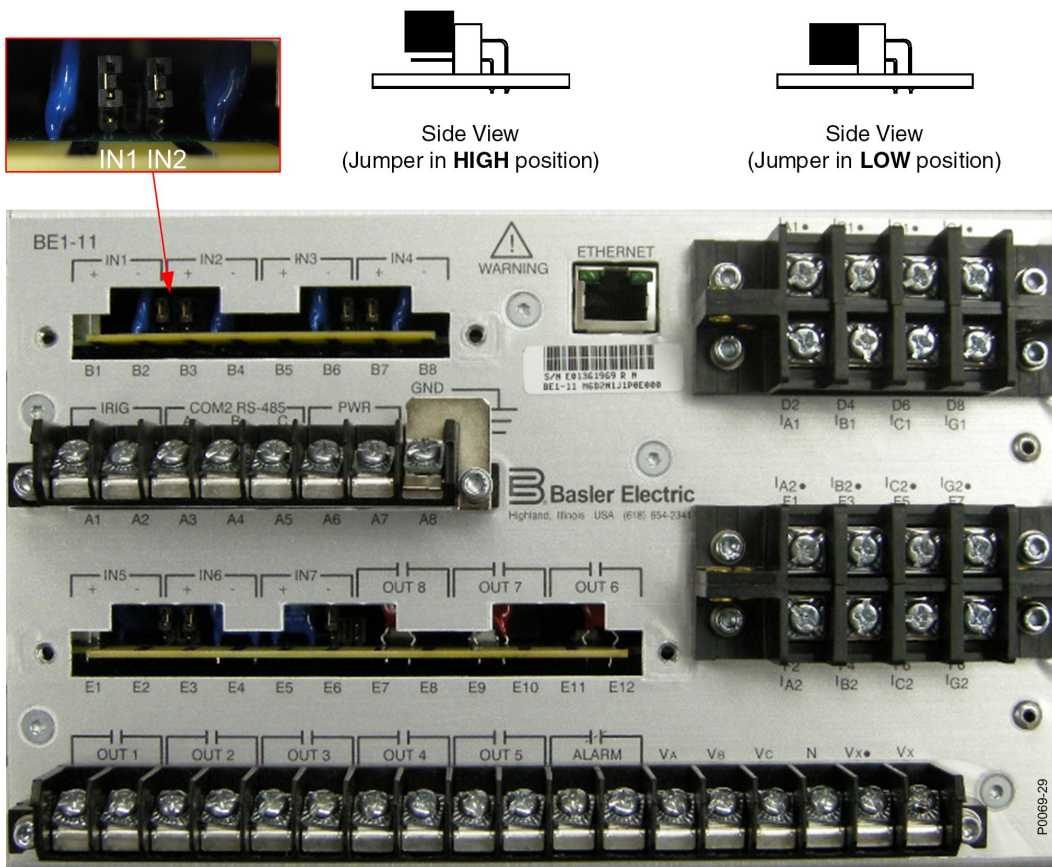

Figure 4-1. Contact-Sensing Jumper Locations (Standard I/O Option)
- Using the input labels on the rear panel as a guide, locate the appropriate jumper terminal block that is mounted on the circuit board. Each terminal block has two sets of pins. With the jumper as installed at the factory, one pin should be visible when viewed from the back of the unit. This configuration allows the inputs to operate at the higher end of the control voltage range. Figure 4-1 illustrates the location of the contact-sensing jumpers. The jumpers are shown in the HIGH position.